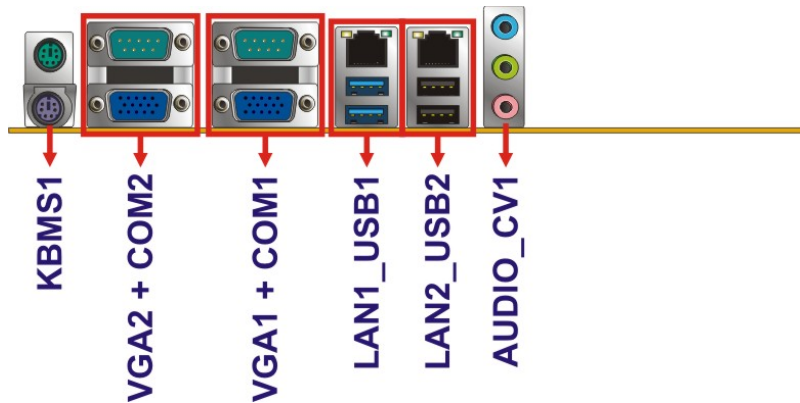

Figure 3-26: External Peripheral Interface Connector
CN Location:	See Figure 3-26
- CN Location:** See **Figure 3-26**